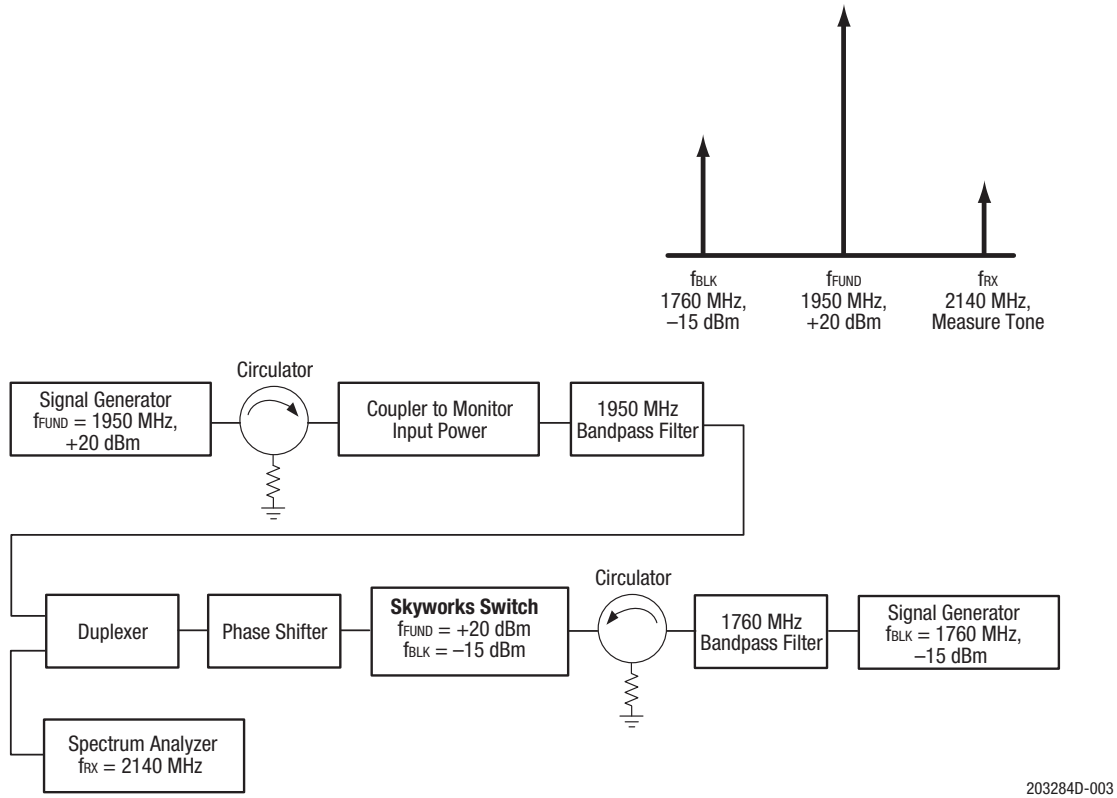

Figure 3. Typical Third Order Intermodulation Test Setup
Figure 3 illustrates the test setup used to measure intermodulation products. This industry standardized test is used to simulate the WCDMA linearity of the antenna switch. A +20 dBm Continuous Wave (CW) signal, f_{FUND} , is sequentially applied to the TRX ports, while a –15 dBm CW blocker signal, f_{BLK} , is applied to the ANT port.